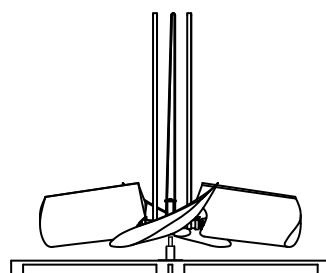

Figure 26. Lift Fan From Crate
4. Lift the fan off the shipping crate. Be careful not to damage blades (**Figure 26**).